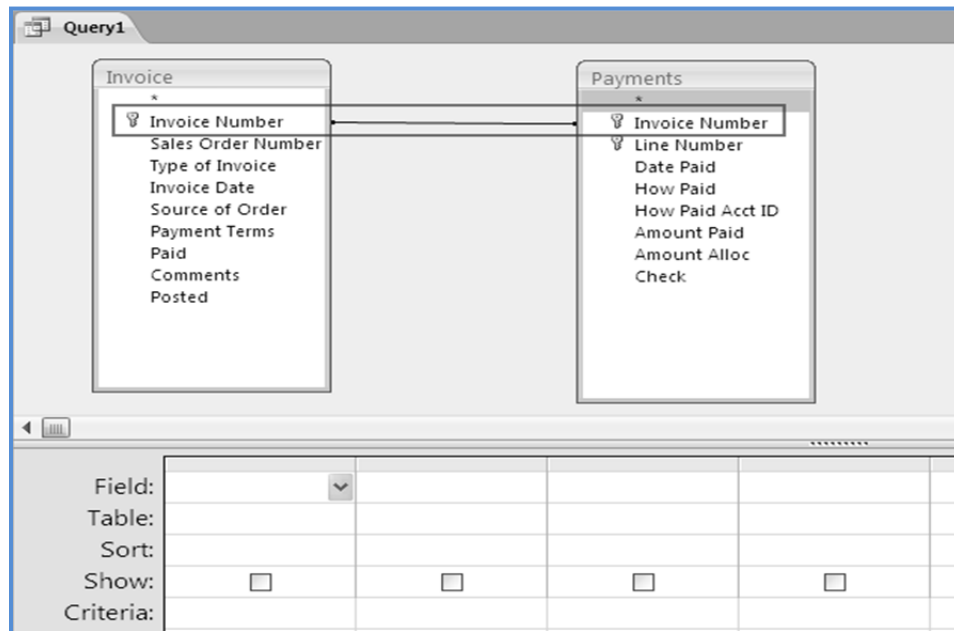

Fig. 1.3.1: Create Relationship between tables
3. To join the two tables, click the *Invoice Number* from *Invoice* table and drag it to *Invoice Number* in *Payments* table. The query window appears, as shown in Fig. 1.3.1.